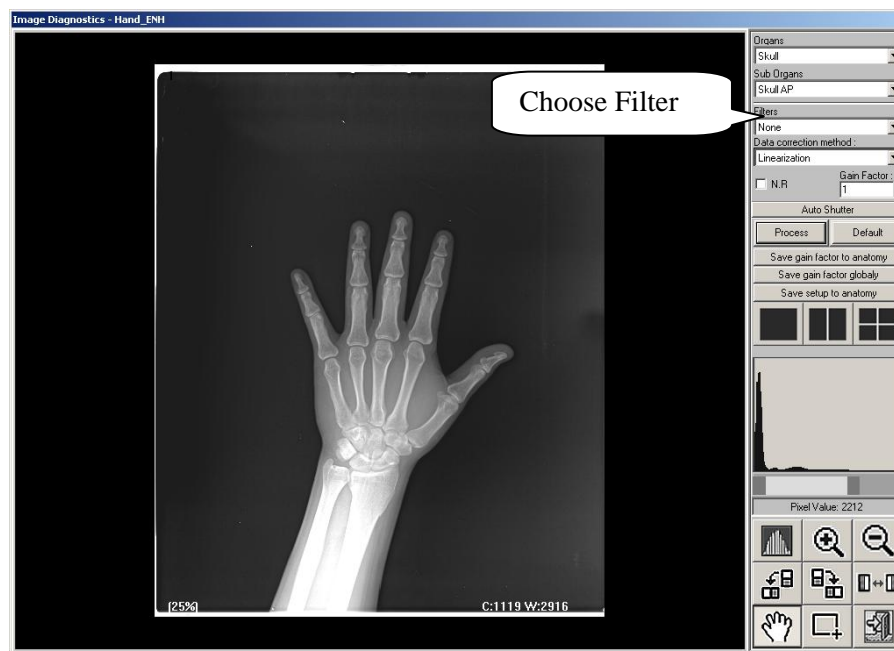

Figure 14: The Image Diagnostics Screen
2. The Image Diagnostics screen opens (Figure 14):
1. Choose a filter from the dropdown list (Figure 14) and click the *process* **Process** button to see its affect on the image.